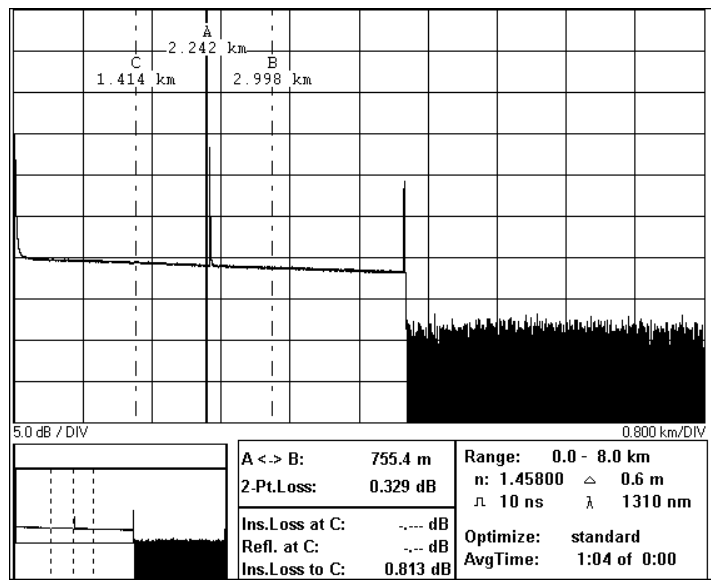

Figure D-5 Event Deadzone Test: Position Marker A
- 10 Wait until the backscatter noise is reduced (about 10 s), then position marker A close to the beginning of the first reflection after the front reflection. See Figure D-5.